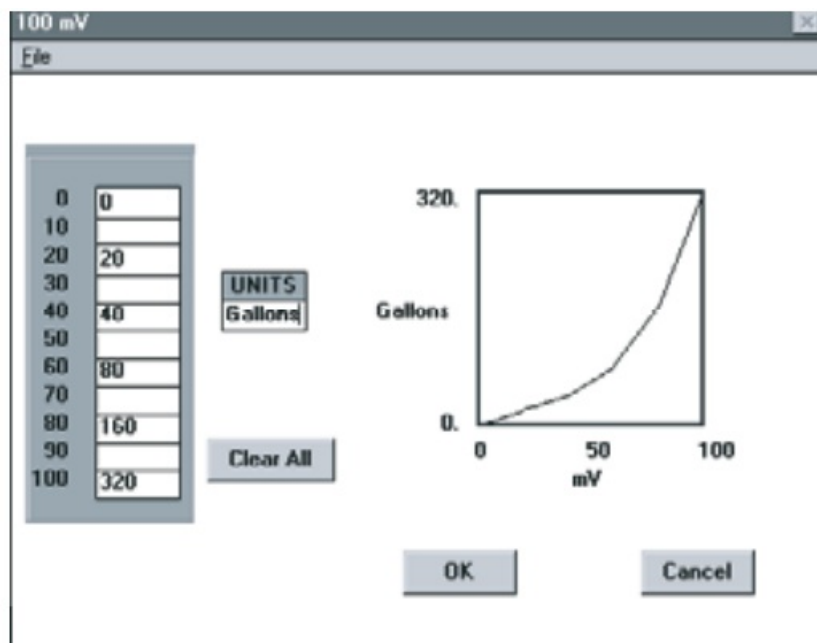

Figure 5
- A screen similar to Figure 5 will appear. The left side of the screen provides the scale and unit programming, while the right side displays the profile of the programmed scale in relationship to the actual input to the logger.